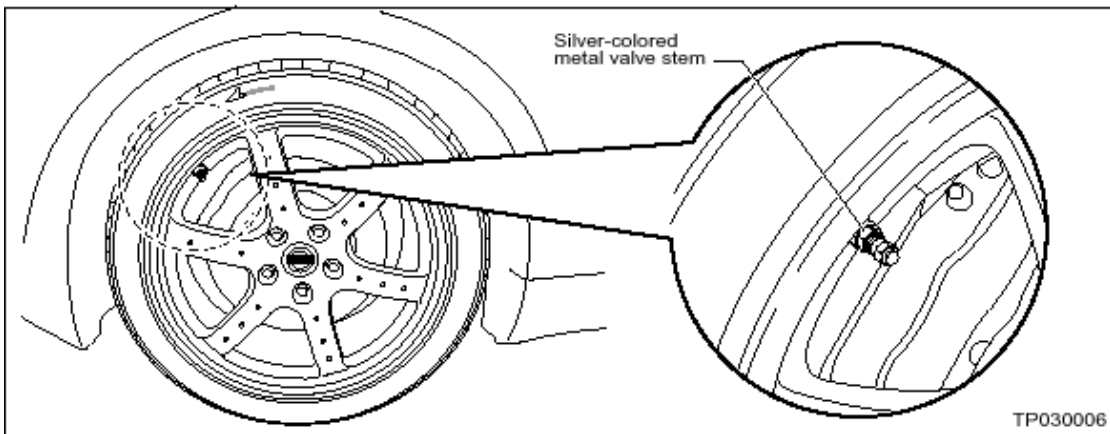

Figure 2
- B. If the valve stems are **silver-colored metal-type** (see Figure 2) use a **non-permanent** marker to mark the stem **Left**, or **Right**. Then follow the **CAUTIONS** on page 4 **before** going to Step 4 on page 5.